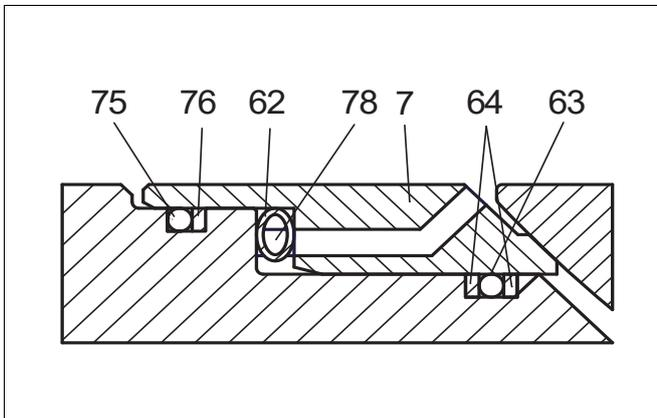

Fig. 13 E seat
- ❑ Place the back seals (63, 75) into their place in the body grooves. See Figure 13.
- ❑ Place the back-up rings (64, 76) made of PTFE strips on both sides of the back seal (63) and beside the back seal (75). To ensure that the seam becomes flexible, the strips must have slanted ends.
- ❑ Place the spring (62) into the groove in the seat (7). Connect the ends of the spring.
- ❑ Place the seats into the body by hand and make sure that the pin (78) in the body, which prevents the seat from rotating, goes into the hole in the seat. Note that the bore through the seat is an ejector hole. If necessary, use a plastic mallet.